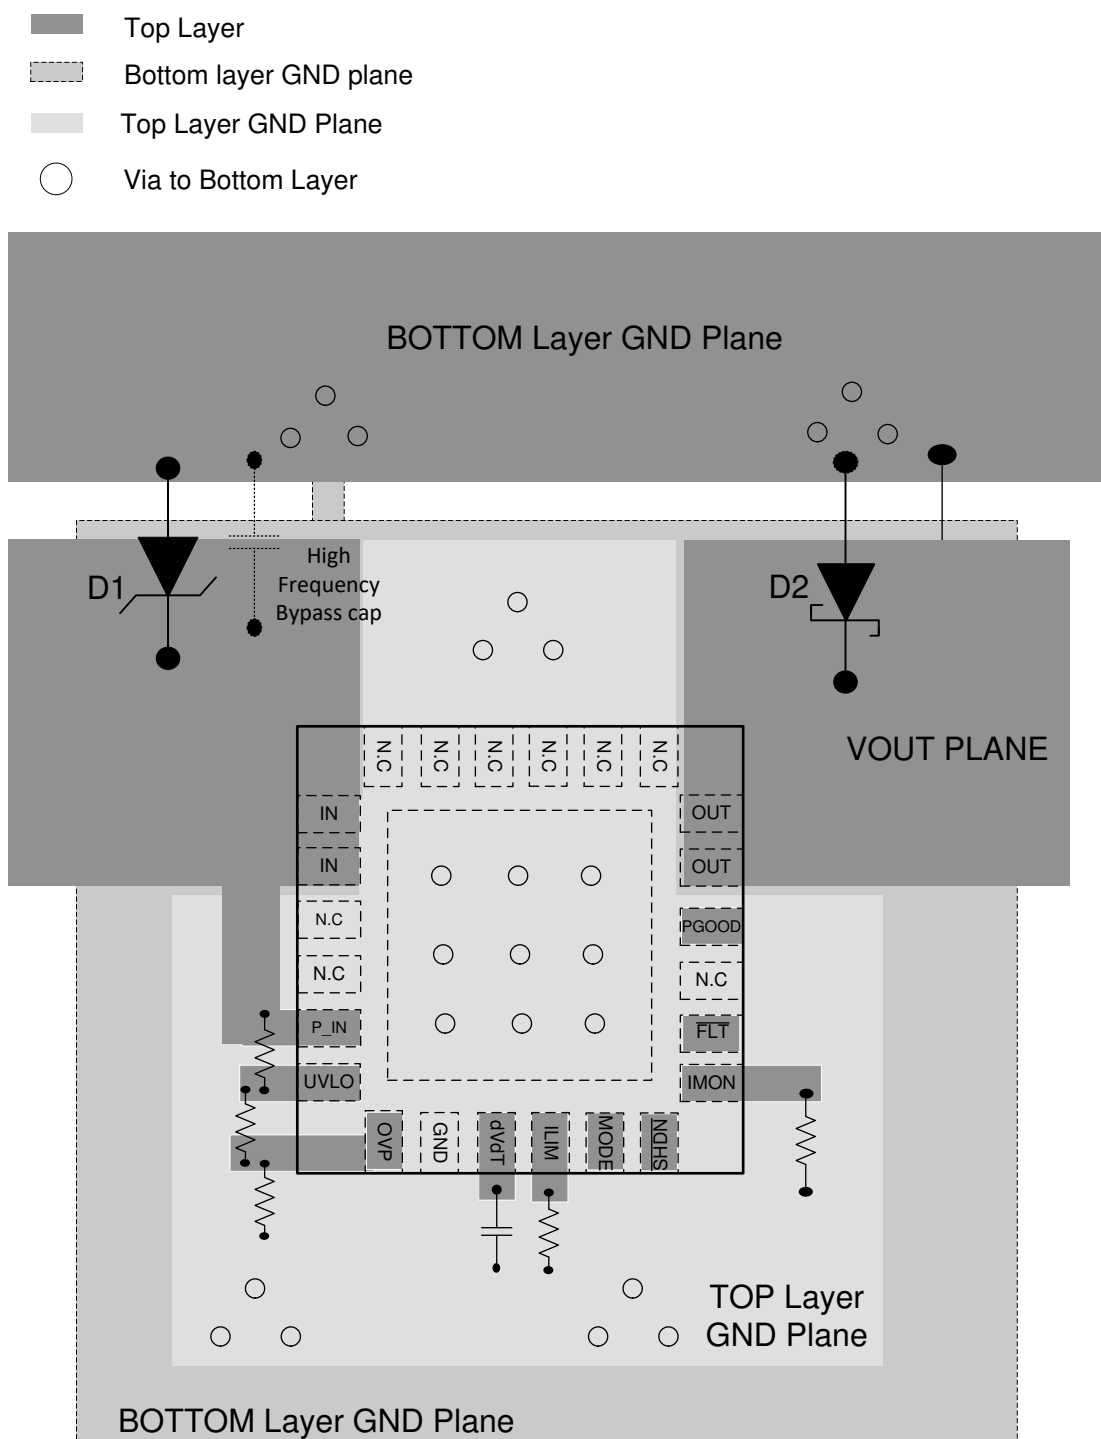
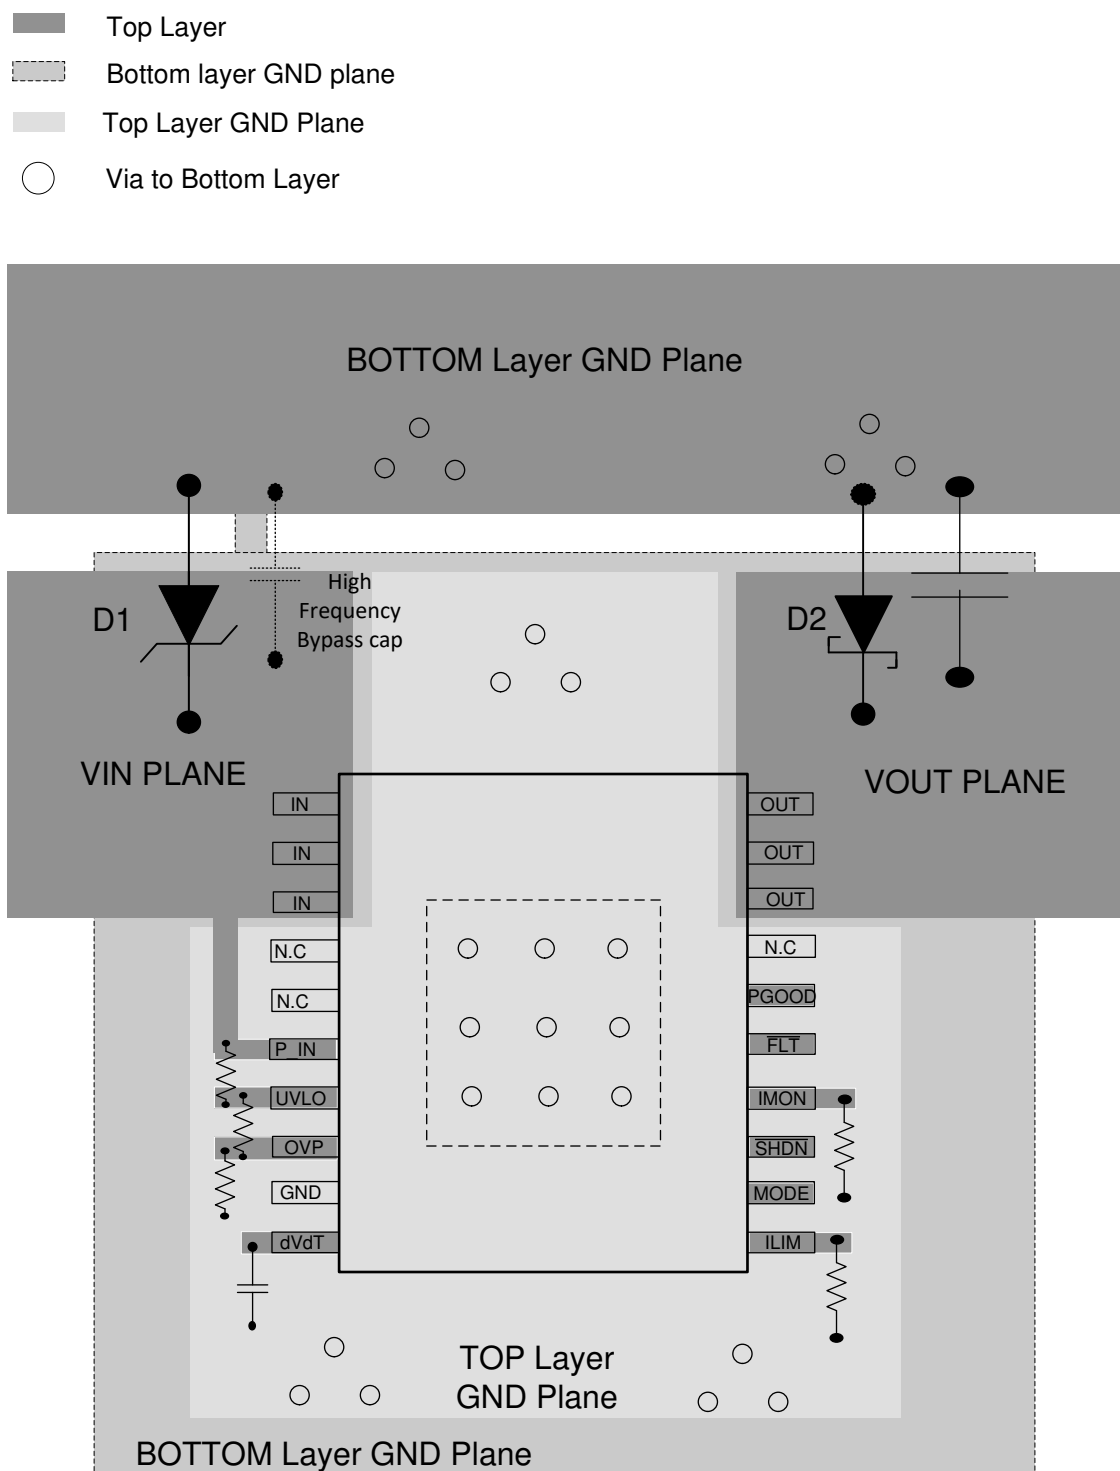

图 10-11. PCB Layout Example With QFN Package With a 2-Layer PCB
图 10-12. Typical PCB Layout Example With HTSSOP Package With a 2-Layer PCB
- High current carrying power path connections must be as short as possible and must be sized to carry at least twice the full-load current. See 图 10-11 and 图 10-12 for a typical PCB layout example.